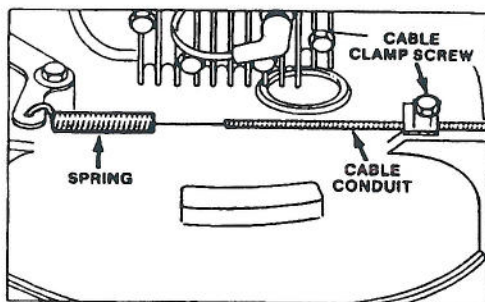

Figure 24
2. Move rear wheel height-of-cut levers to "C" setting. Wipe grease fittings with clean rag (Fig. 24). Install grease gun onto fitting and gently apply 1 pump of #2 Multi-Purpose Lithium Base Grease. Excess pressure may damage seals.
2. Loosen cable clamp screw until brake cable conduit slides (Fig. 24). Pull cable to remove slack, but do not put tension on spring. Tighten screw to lock adjustment in place.